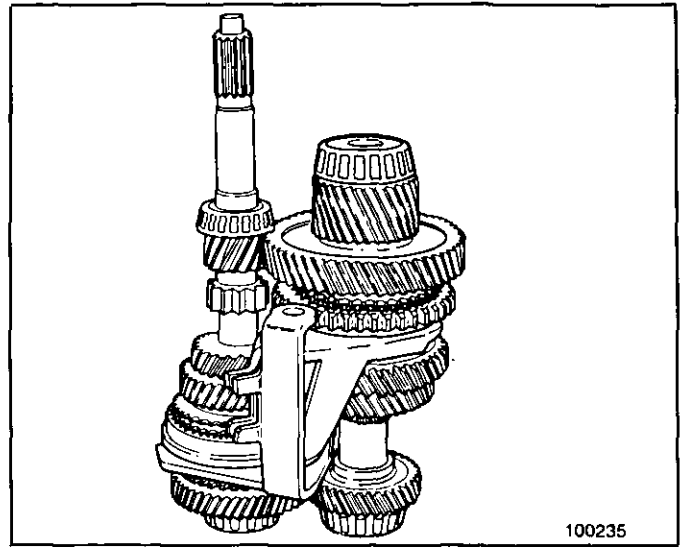

Figure 14 Shafts/Shift Forks
6. Grasp the input and output shafts and then lift them as an assembly from the case. Note the position of the shift forks, shown in Figure 14, for aid when reinstalling later. Remove the shift forks.